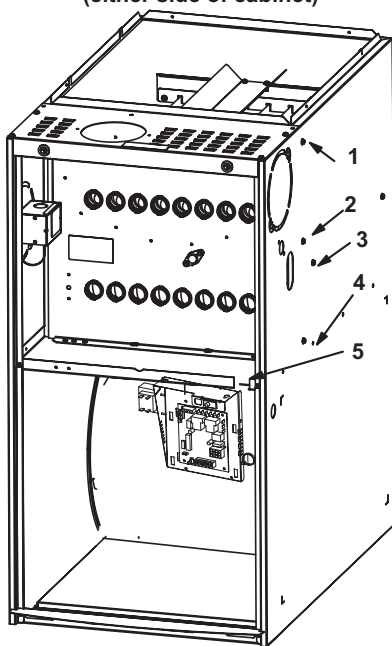

FIGURE 23
- 10 - Remove heat exchanger. It may be necessary to spread cabinet side to allow more room. If so, remove five screws from the left side or right side of cabinet. See FIGURE 23.